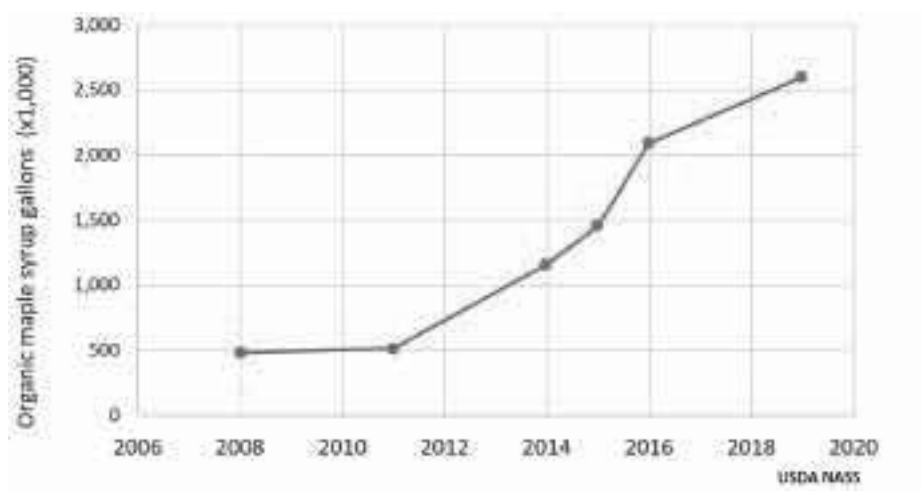

Figure 1: US organic maple syrup production 2008-2019
Figure 1. Sap yield (A), sap sugar content (B), and syrup yield (C) from tapholes drilled to depths from 1" to 2 1/2" (including bark) in sugar maple stems expressed as a percentage of the tapholes at 1 1/2" deep from 2018, 2019, and 2020. Number of independent samples (mainlines) for each depth is indicated in figure C. The R^2 value for a fitted 2 order polynomial (dashed line) is shown indicating the proportion of variance explained by the model curve.
Figure 1: (a) In early season sap, sucrose was the major saccharide detected, decreased in mid season (b), and was present at low concentrations at the end of the season (c) [PLoS One
from approximately 500,000 gallons to just over 2.6 million gallons (Figure 1). Consumer demand and a premium paid for organic bulk syrup are thought to be two of the leading drivers for the increase in production. Industry experts believe this demand will continue (Carbonetti et al 2020).